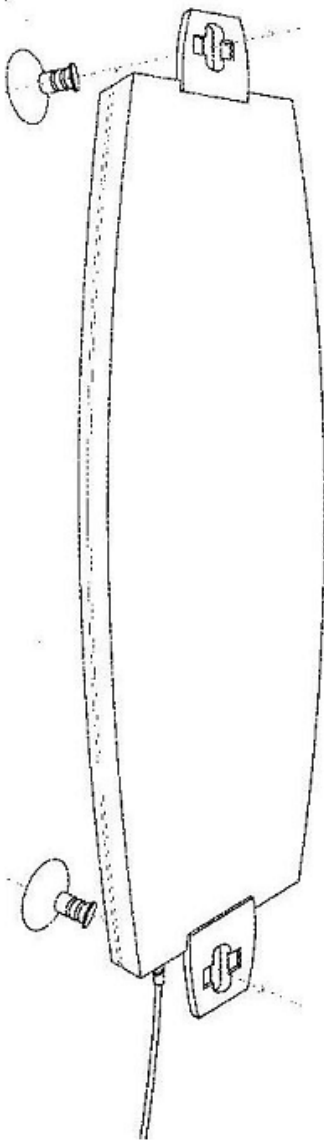

Figure 2-16: Window Mounting the 3.5 GHz Detached Antenna
- 1 Attach the suction cups to the antenna. Refer to Figure 2-16 for directions.